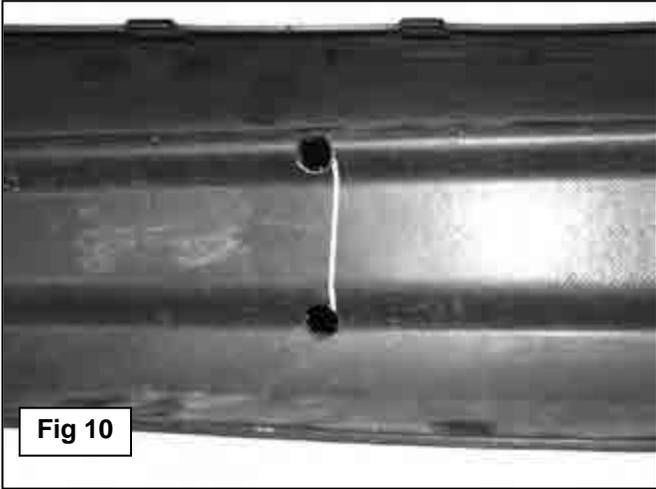
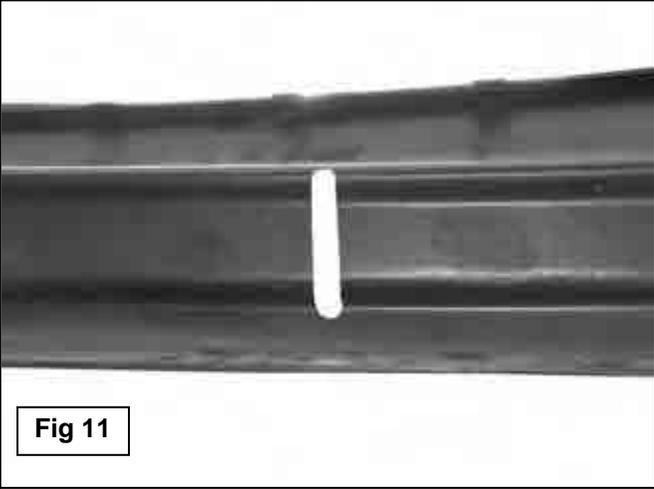

Fig 10
Fig 11
9. Drill a 1/2" hole at the top and the bottom of the measured line, **(Figure 10)**. Use a sharp utility knife or hacksaw to cut a 1/2" wide slot for the Mounting Brackets, **(Figure 11)**. **NOTE:** Additional trimming for Bar clearance may be required on Equinox model vehicles. **IMPORTANT:** To maintain the integrity of the spoiler, do not cut completely through the top or bottom edge of the spoiler. Only remove material required to clear the Sport Bar.